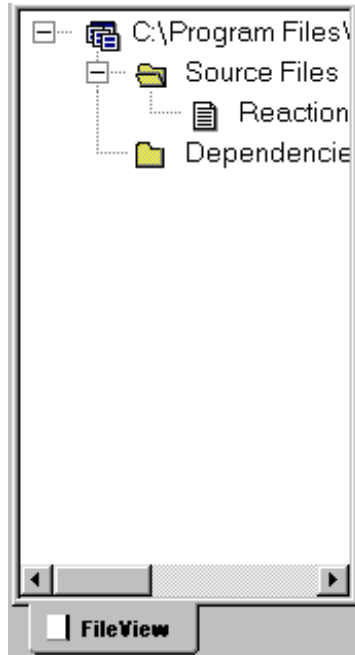

Figure 2-11. Project Workspace Window
5. Click Open. The file appears in the Project Workspace window (see Figure 2-11).